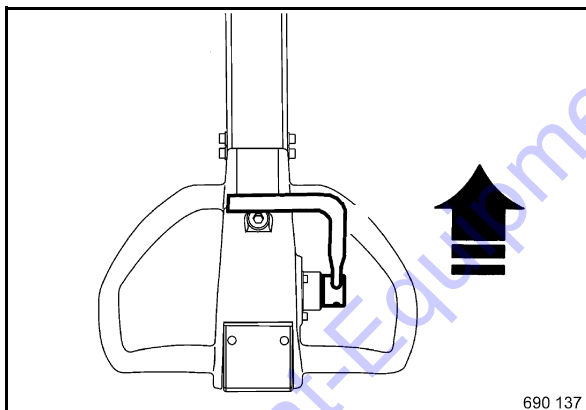

Fig. 65
- Shift the travel lever forward against the stop (Fig. 65).